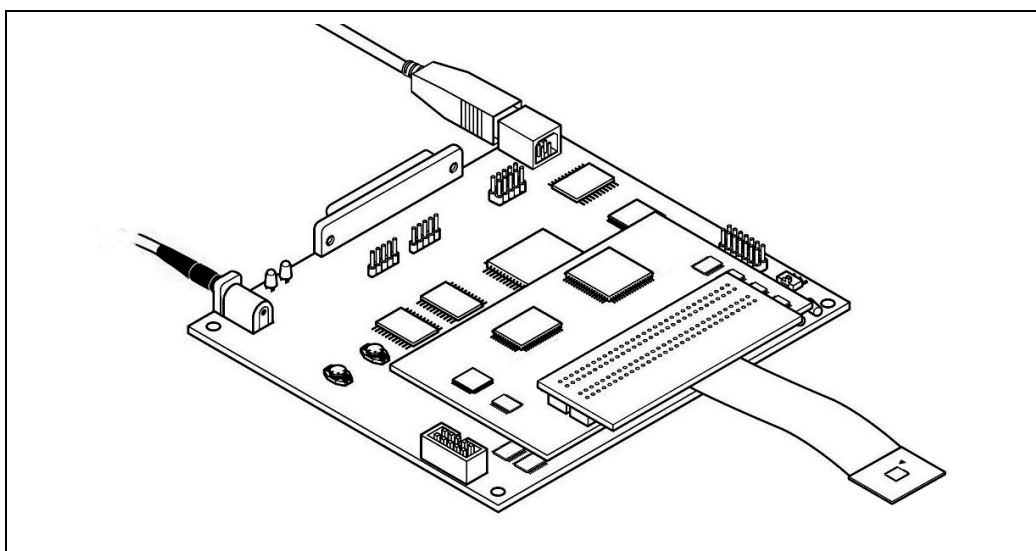

Figure 13: DVP3 configuration for TQFP32 emulation
- 3 Connect the TQFP32 adapter to the TEB's J1 and J2 connectors, as shown in Figure 13.